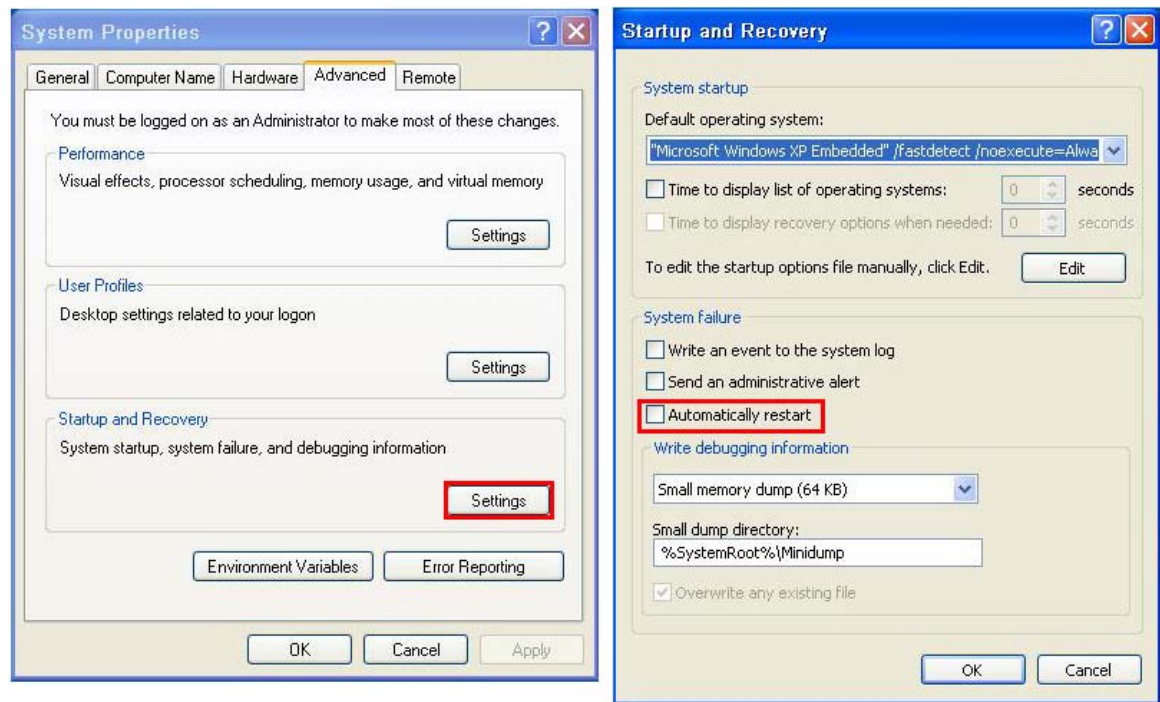

Figure B-43: Disable Automatically Restart
Step 1: Disable the automatically restart function before creating the factory default image. Go to: My Computer → Properties → Advanced. Click the Settings button of Startup and Recovery. Deselect “Automatically restart”. Click OK to save the settings and exit. (See **Figure B-43**)